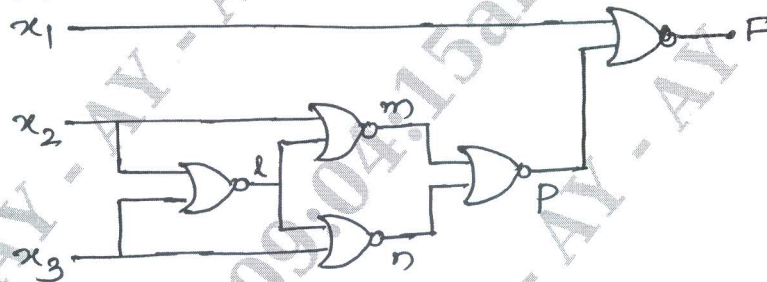

Fig.Q.8(b)
b. For a given logic network determine tests for checking all single node faults (Fig.Q.8(b))